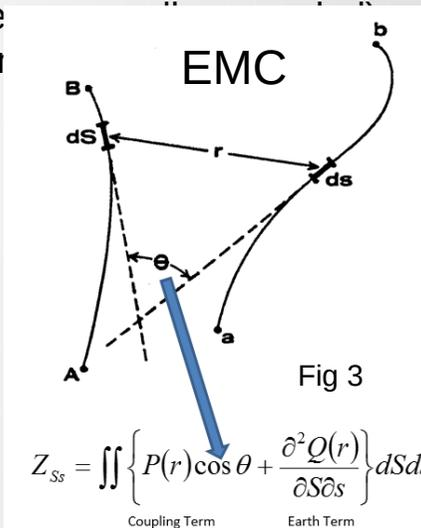

Fig 3
- EMC is a significant, if not the most important consideration when doing large Gradient Array surveys (Fig3).